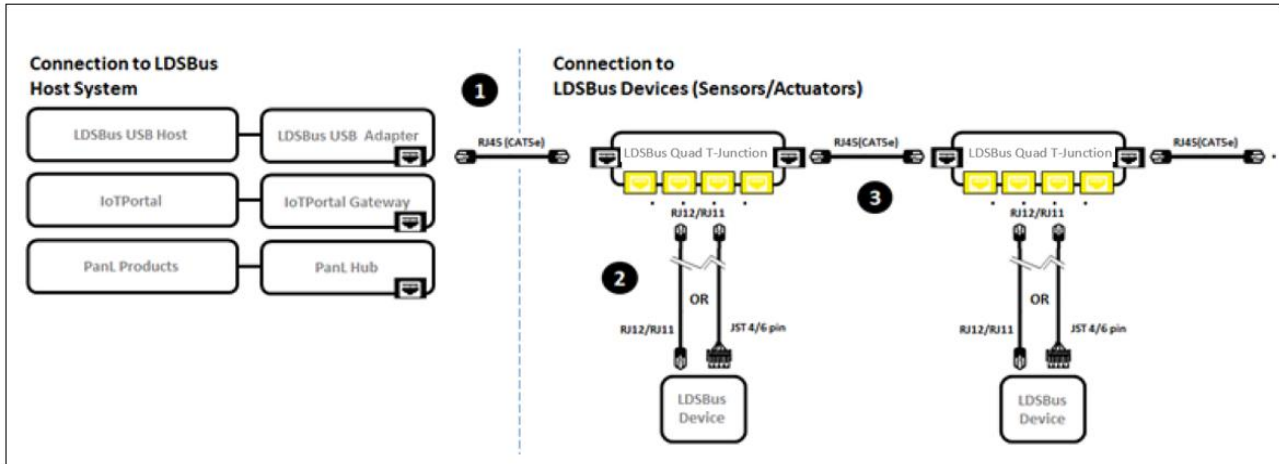

Figure 2 - LDSBus 4CH Solid State Relay - Connection Diagram
Figure 2 illustrates the connection of the LDSBus 4CH Solid State Relay (LDSBus Device) to the LDSBus. Please visit <https://brtsys.com/resources> and refer to LDSBus Configuration Utility Guide.
2. Connect the configured LDSBus 4CH Solid State Relay to the LDSBus Quad T-Junction as shown in Figure 2 (Step 2).
3. If there is more than one LDSBus Quad T-Junction, chain them together as shown in Figure 2. (Step 3)